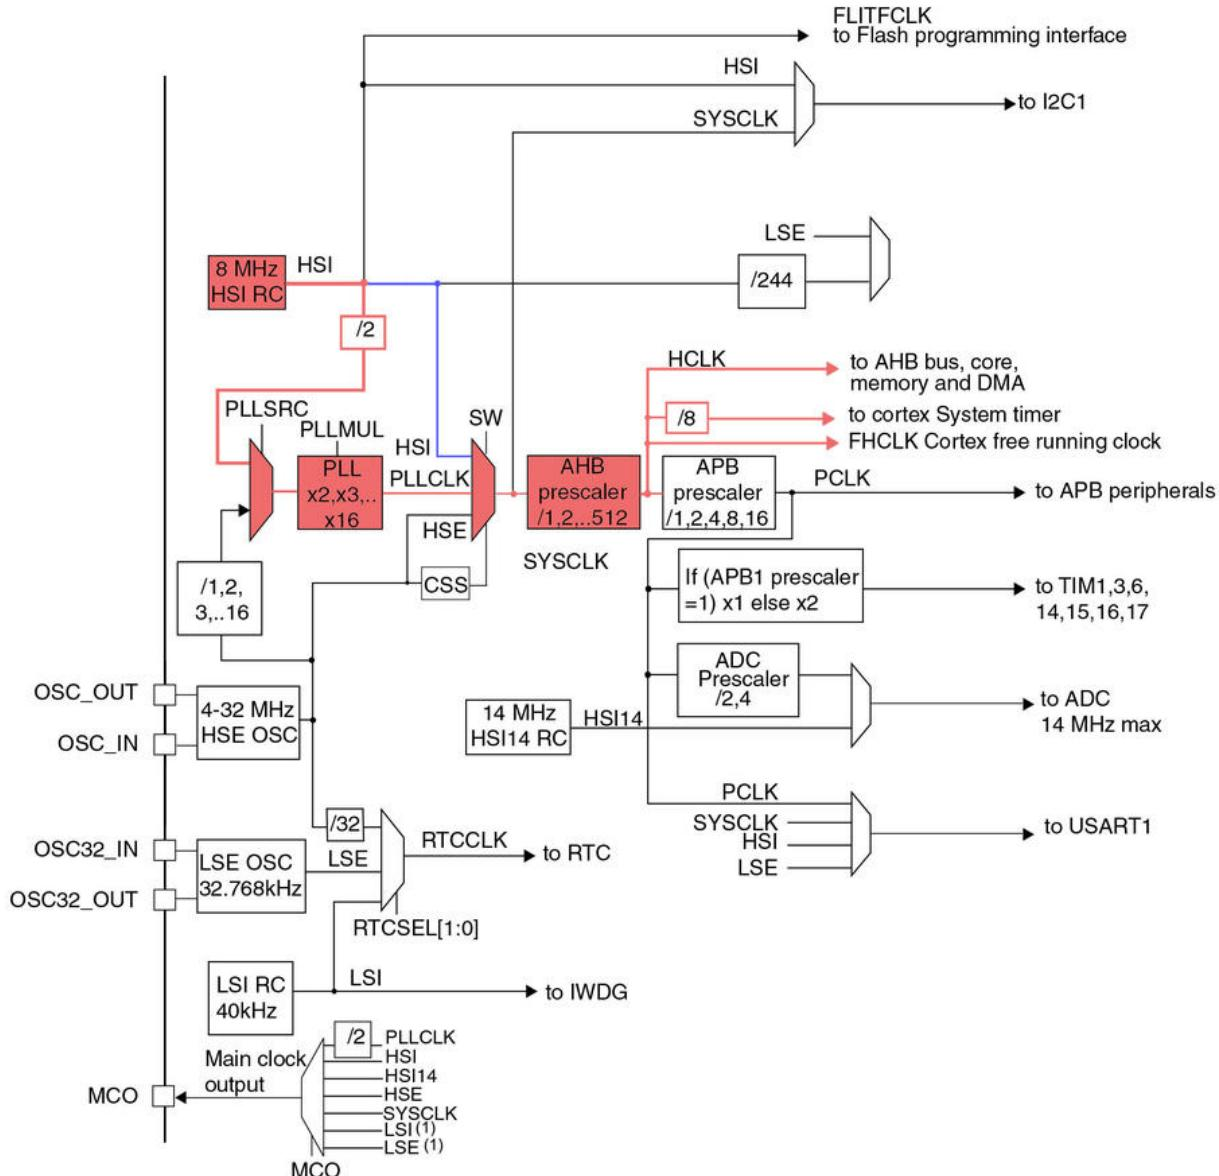
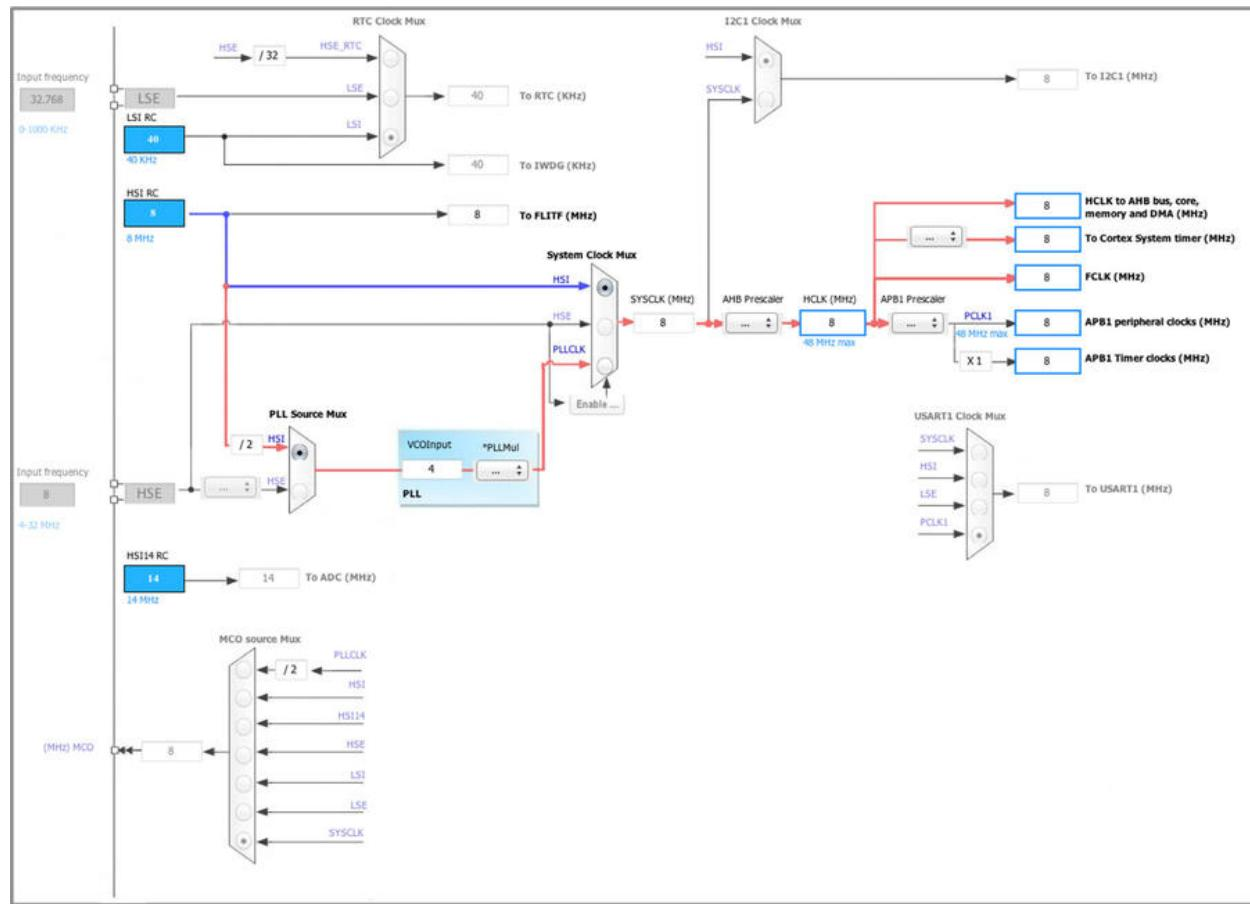

Figure 3: The clock tree of an STM32F030R8 MCU
Figure 4: How the clock tree of an STM32F030R8 MCU is represented in CubeMX
Figure 3 shows the clock tree of one of the simplest STM32 microcontrollers: the STM32F030R8. It is extracted from the related reference manual⁹ provided by ST. For a lot of novices of the STM32 platform that figure is completely meaningless and quite hard to decode, especially if they are also
The path starts from the internal 8MHz oscillator. As said before, it is an RC oscillator factory-calibrated by ST for 1% accuracy at a ambient temperature of 25 °C. The HSI clock can then be used to feed the *System Clock Switch* (SW) as is (path highlighted in blue in Figure 3) or it can be used to feed the PLL multiplier after it has been divided by two thanks to an intermediate prescaler¹⁰. The main PLL so can multiply the 4MHz clock up to 12 times to obtain the maximum *System Clock Frequency* (SYSCLK) of 48MHz. The SYSCLK source can be used to feed the I2C1 peripheral (in alternative to the HSI) and another intermediate prescaler, the AHB prescaler, which can be used to lower the *High (speed) Clock* (HCLK), which in turn biases the AHB bus, the core and the *SysTimer*.
We have already encountered in Chapter 4 the CubeMX *Clock Configuration* view. Now it is the right time to see how it works. The Figure 4 shows the clock tree of the same F0 MCU seen so far. As you can see, thanks to the more room available on the screen, the distribution network looks less cumbersome.
Even in this case, the most relevant paths of the clock tree have been highlighted in red and blue. This should simplify the comparison with the Figure 3. When a new project is created, by default CubeMX chooses the HSI oscillator as default clock source. HSI is also chosen as default clock source for the *System Clock Switch* (path in blue), as shown in Figure 4. This means that, for the MCU we are considering here, the Cortex-M core frequency will be equal to 8MHz.
core frequency we first need to select the PLLCLK as the source clock for the *System Clock Switch* and then choose the right PLL multiplier factor. However, CubeMX offers a quick way to do this: you can simply write “48” inside the HCLK field and hit the enter key. CubeMX will automatically arrange the settings, choosing the right clock tree path (the red one in Figure 4)